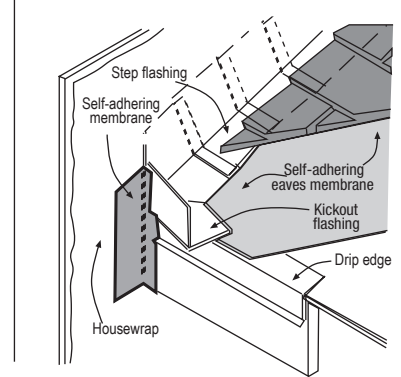

**Figure 5**
- Ensure gutters have end caps. Maintain a minimum 1 in gap between end caps and siding & trim (fig.5).